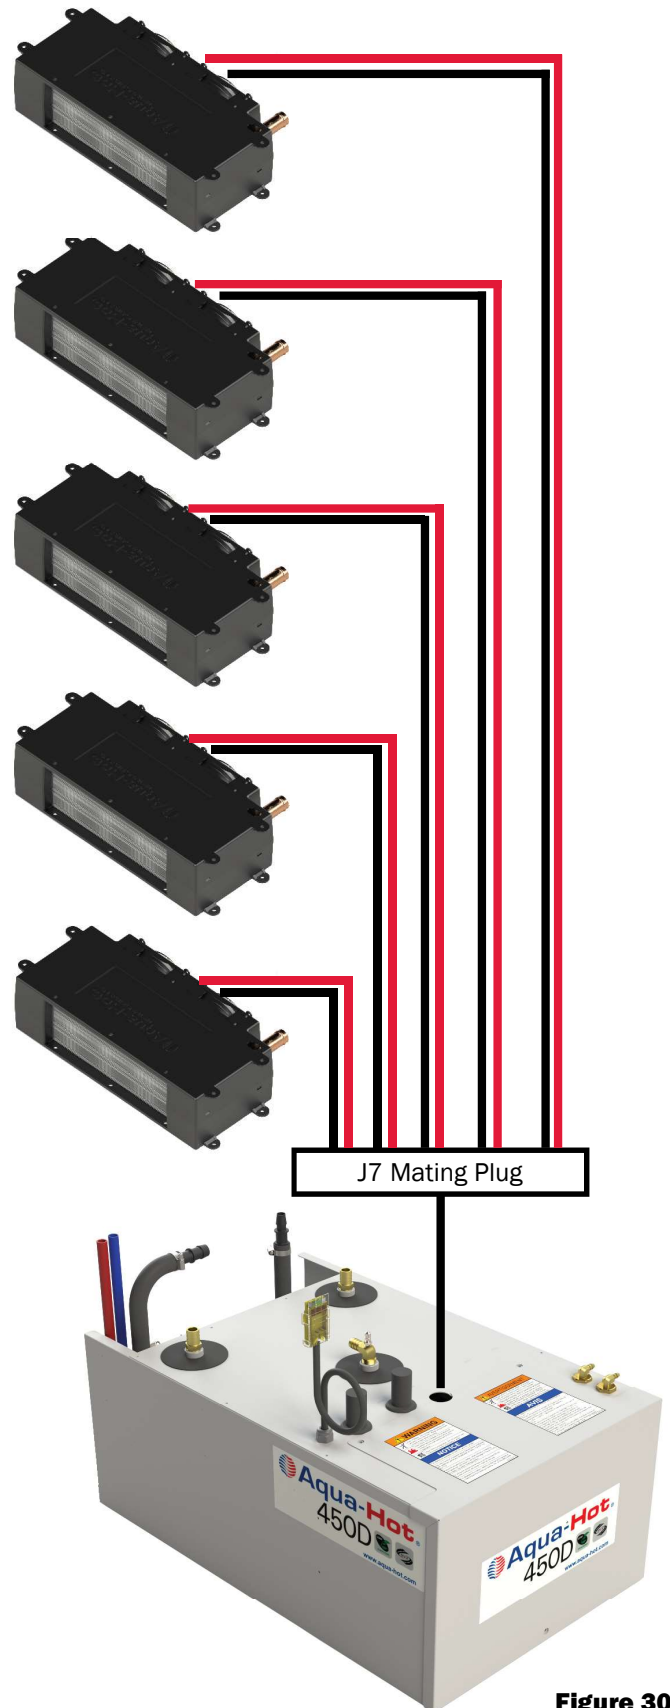

Figure 30
1. Wire each heat exchanger (in a heating zone) in parallel to one another as shown in Figure 30.